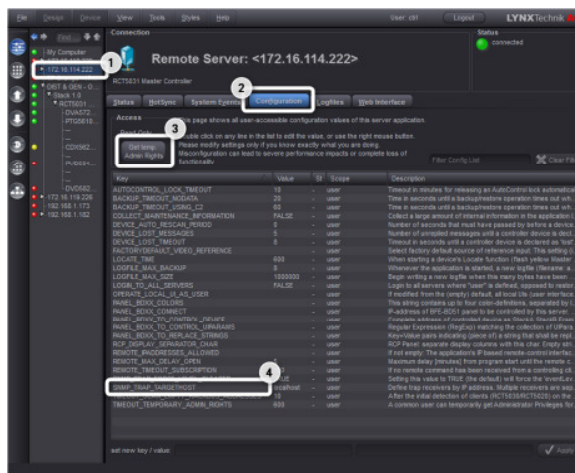

figure 2: set SNMP_TRAP_TARGETHOST
- (3) Set the configuration variable SNMP_TRAP_TARGETHOST of the LYNX Master-Controller to the IP-Address of the system that runs the snmptrapd-tool (next step). See figure 2.
- (4) On the target-system (as specified in the previous step), run the command-line tool snmptrapd (from the Net-SNMP tools) to receive and display incoming traps. *(Please note that this program opens UDP/IP port 162, which may require special administration privileges)*